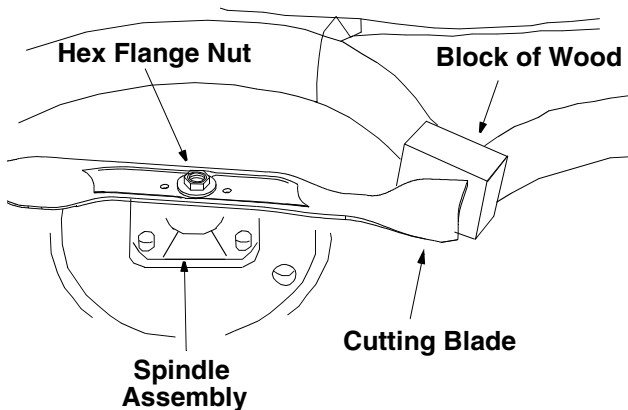

Figure 7
2. Place a block of wood between the center deck housing baffle and the cutting blade to act as a stabilizer. See Figure 7.
3. Use a 15/16" wrench to remove the hex flange nut that secures the blade to the spindle assembly. See Figure 7.